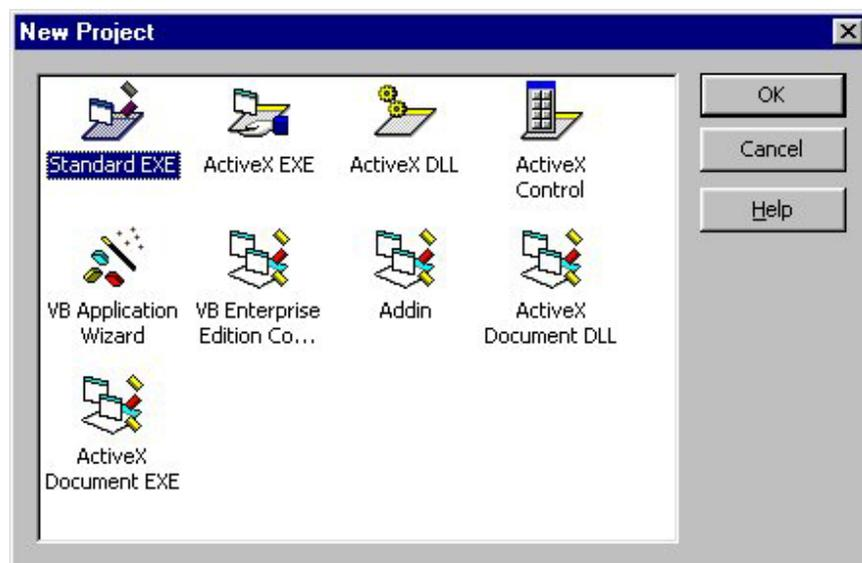

Figure 1-1-2. Select the “Standard EXE”
3. Open Visual Basic 5.0, and select the “Standard EXE” icon, then click the “OK” button. Refer to Figure 1-1-2.